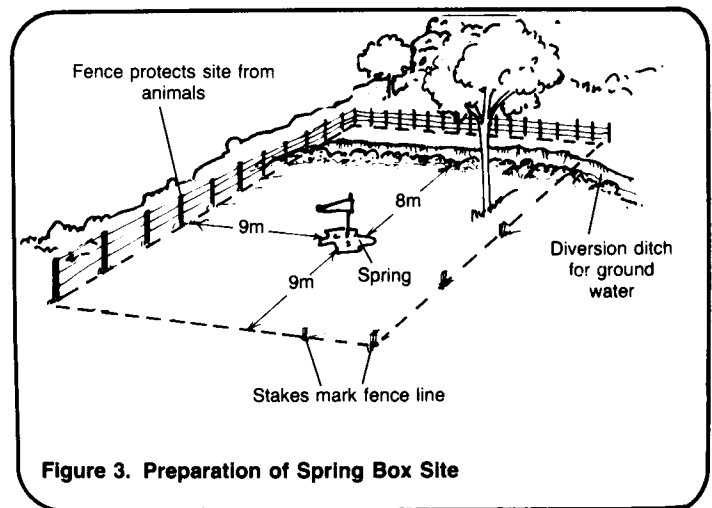

Figure 3. Preparation of Spring Box Site
1. Locate the spring site and with measuring tape, cord and wooden stakes, or pointed sticks, mark out the construction area as shown in Figure 3.